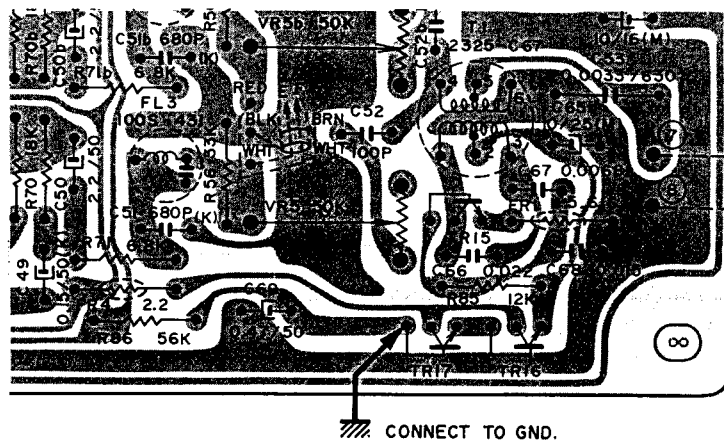

Fig. 14 Rec Peaking
4. Ground the base of TR17, as shown in Fig. 14, to stop the Bias Oscillator from oscillating when conducting Rec peaking adjustment.